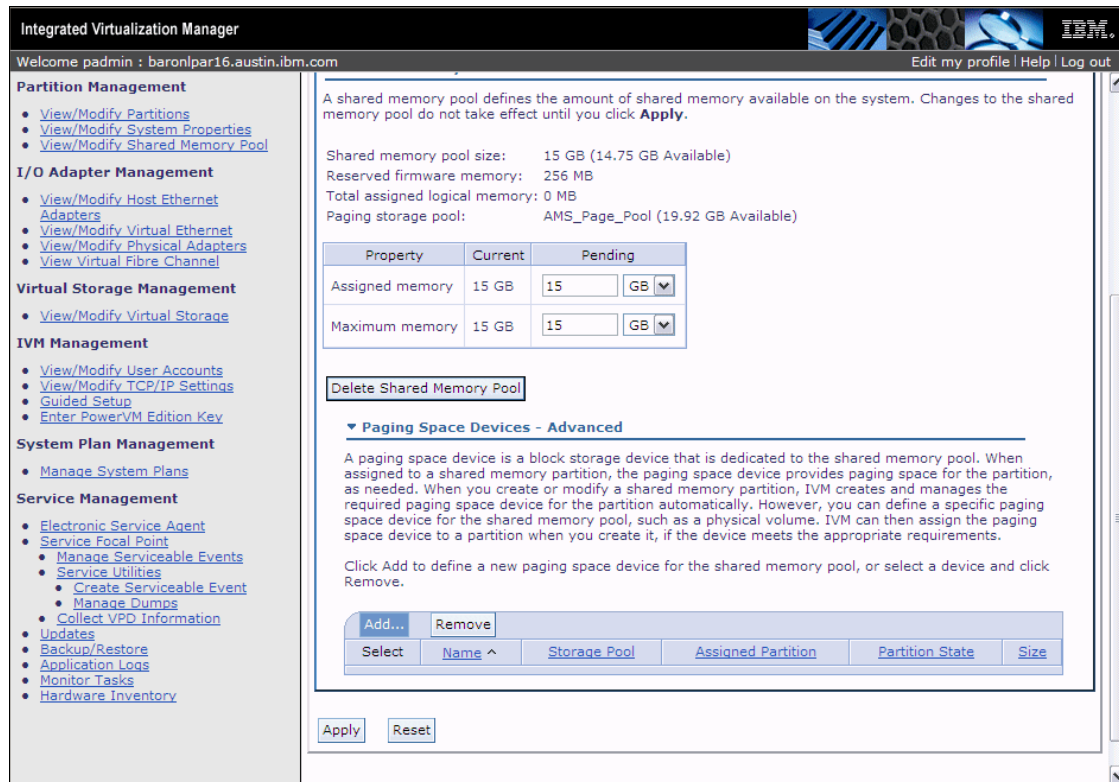

Figure 5-9 Creating dedicated paging devices for LPARS using shared memory
2. Then click on **Paging Space Devices - Advanced** to expand the section as shown in Figure 5-9 on page 192.